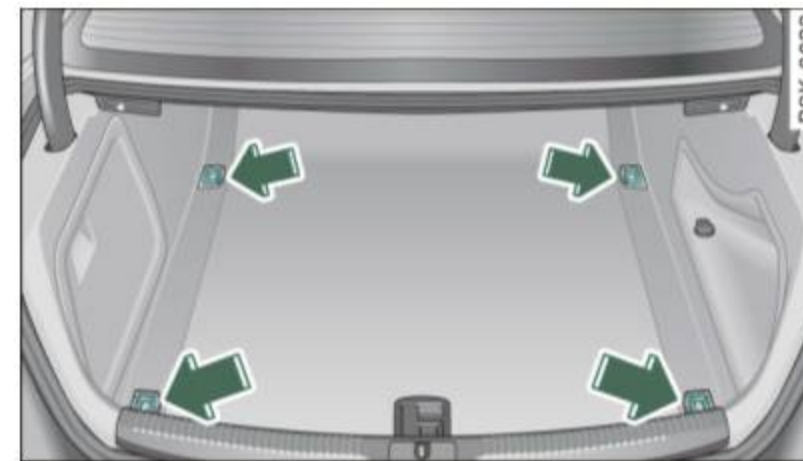

Fig. 86 Location of the tie-down rings in the luggage compartment ▶
- Secure the cargo to the tie-down rings ⇒ *page 87, fig. 86* -Arrows-.